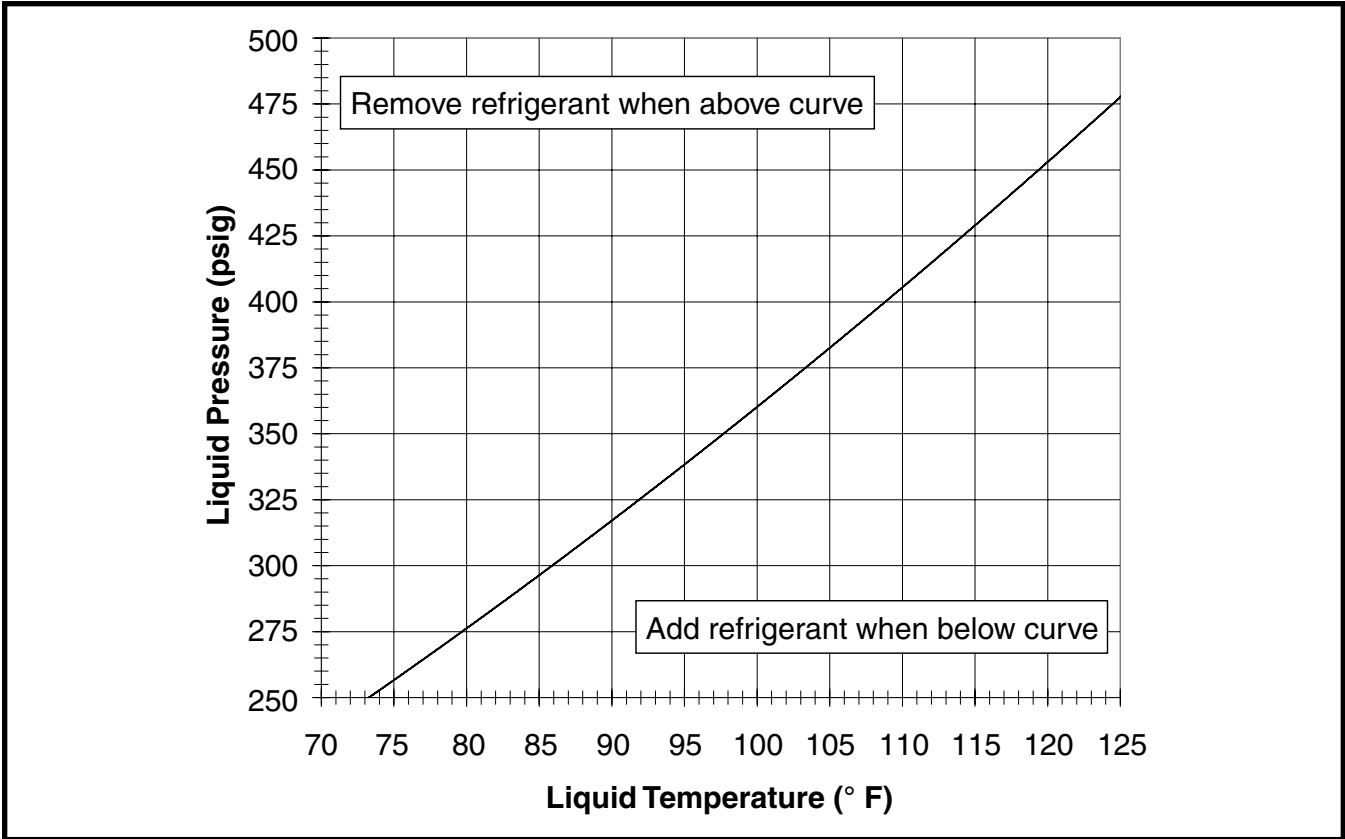

Figure 5. Charging Chart for 4 Ton Units
- Charging charts are valid for a variety of indoor, return air conditions and are most influenced by the outdoor ambient temperature, outdoor fan operation and the unit operating voltage. Before using these charts, make sure the unit is in a stable operating mode. As shown in the charging charts (Figures 5 - 11, pages 13 - 16), the ideal system sub-cooling can vary over the range of operation. Reference the charts to determine the ideal amount of sub-cooling for a given liquid pressure. Units charged to other values will not perform at the rated unit efficiency (EER) or rated Coefficient of Performance (COP) in heating mode.